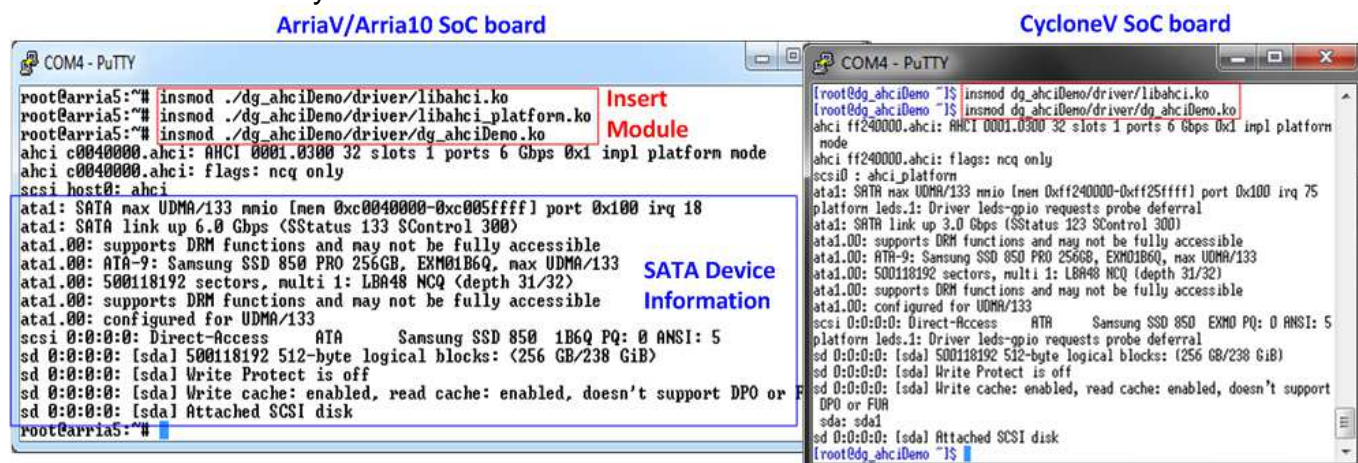

Figure 3-2 Insert module to linux kernel
- After insert modules, disk information will be displayed, as shown in Figure 3-2. Now SATA device is ready to use.